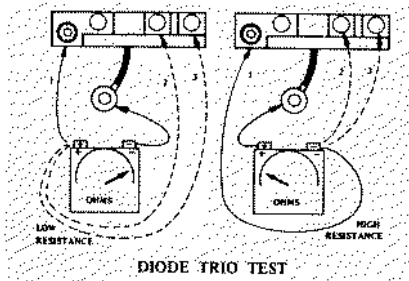

Fig. 17
1. Connect the negative lead of the tester to the output lead of the diode trio and touch the positive tester lead to each of the three copper terminal pads. (See Figure 17.) A low resistance should be indicated and if a test lamp is being used, it should light.